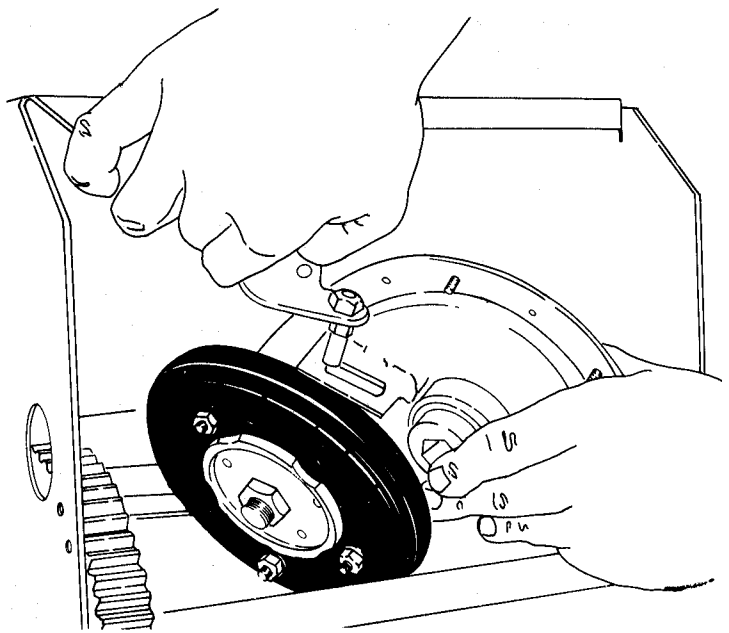

FIGURE 3.26 — TILT CHAIN CASE SIDWAYS
STEP 4: Tilt the chain case sideways and pull it out of the frame as shown in Figures 3.26 and 3.27.